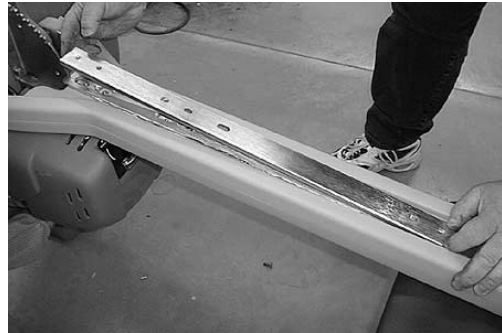

Fig. 11
13. Unthread the remaining (2) screws from the handle latch channel and remove channel from handle (Figure 11).